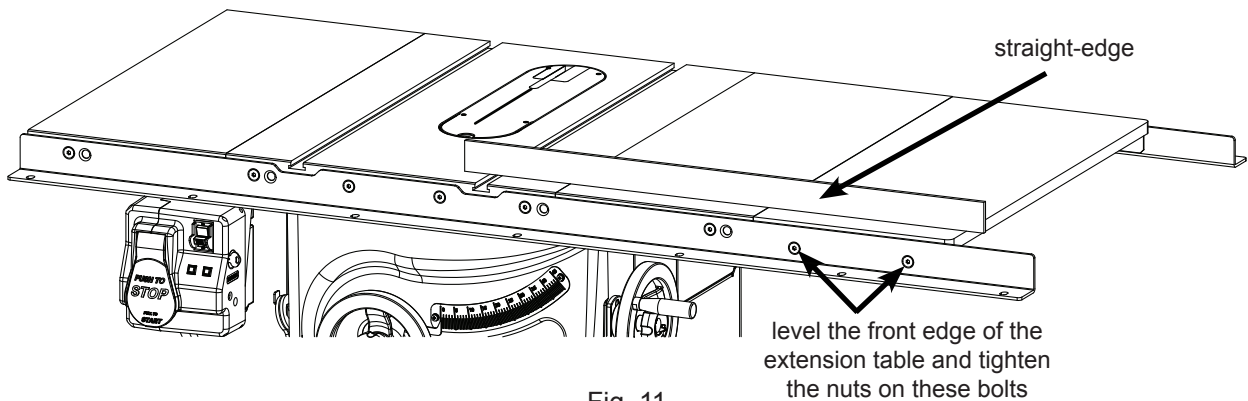

Fig. 11
11. Make sure the extension table is flush against the right extension wing and there is no gap between them. Then, use a straight-edge to level the front edge of the extension table to the cast iron table top (see Fig. 11). You may have to pull up or push down on the outer edge of the extension table to level it. Once the front edge of the extension table is level, use a 5 mm hex key and a 13 mm wrench to fully tighten the nuts on the bolts that mount the extension table to the front rail. Repeat this process to level the rear edge of the extension table to the cast iron table top.